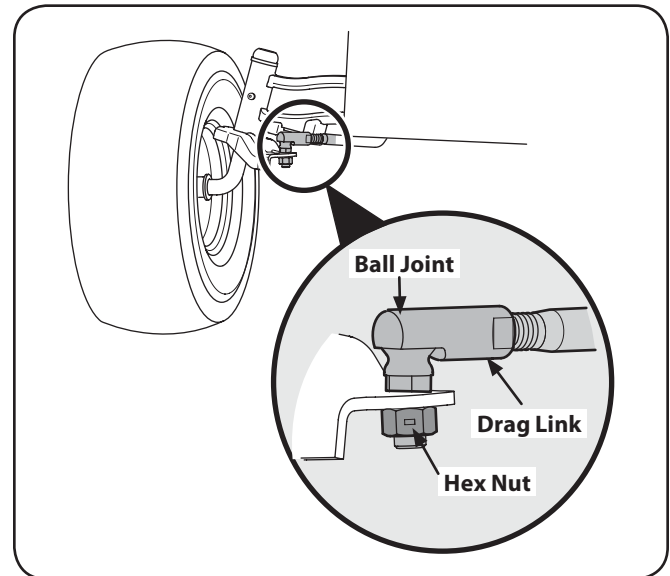

Figure 6-7
1. Remove the hex nut below the of ball joint. See Fig. 6-7.